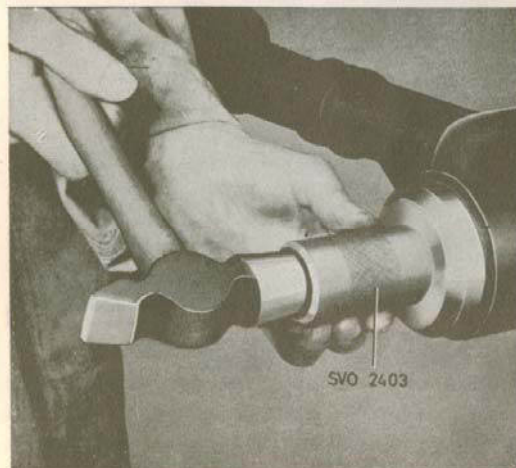

Fig. 5-7. Fitting the oil seal
3. Fit a new paper washer and fit the new oil seal with tool SVO 2403, Fig. 5-7.